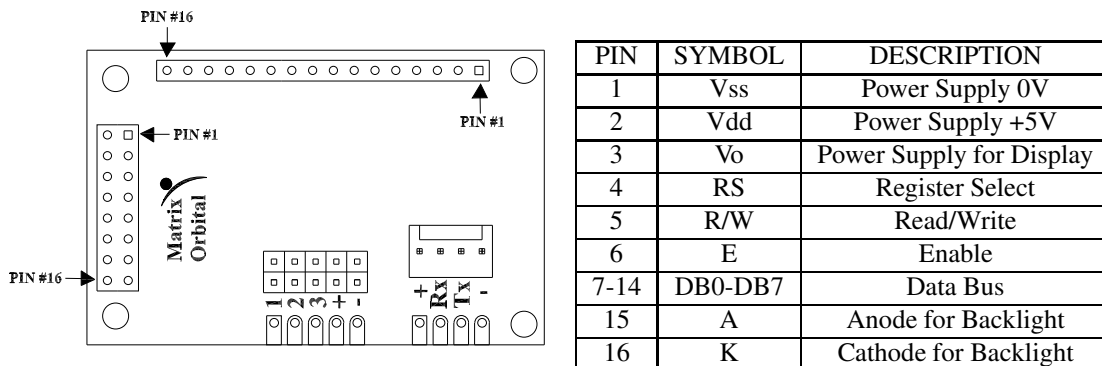

Figure 1: Pin Connections
1. Once the type of display has been selected, solder the strip header pins accordingly. For example: if the display is an LCD 2x16, you would solder the 2 x 8 pin strip headers in the single 16 pin row of the display. Please see Figure1 for further description.
2. Familiarize yourself with the 2x5 header connector, also known as the GPO header labeled in Figure 1. You will need 3 jumpers that will short a combination of the pins as described later. The connector has been labeled with “1,2,3,+,-”. You will only be shorting a combination of the pins labeled “1,2,3” to the other row of the header.